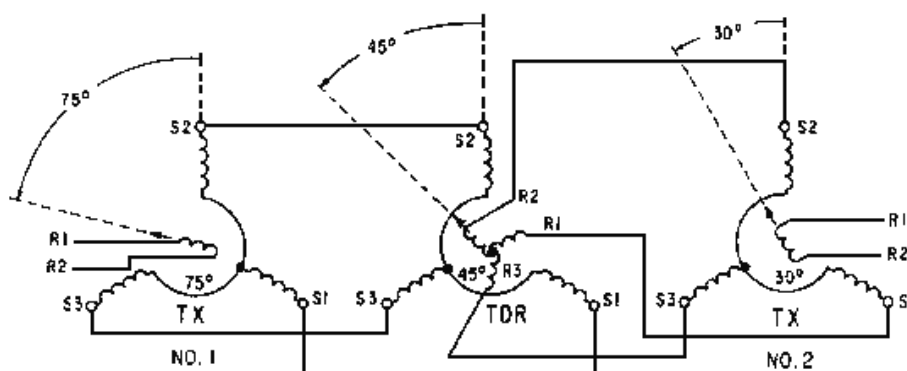

Figure 1-22.—TX-TDR-TX system operation (subtraction).
As we previously explained, the differential receiver differs chiefly from the differential transmitter in its application. The TDX in each of the previous examples combined its own input with the signal from a synchro transmitter (TX) and transmitted the sum or difference to a synchro receiver (TR). The synchro receiver then provided the system's mechanical output. When the differential receiver (TDR) is used, the TDR itself provides the system's mechanical output. This output is usually the sum or difference of the electrical signals received from two synchro transmitters. Figure 1-22 shows a system consisting of two TXs (No. 1 and No. 2) and a TDR connected for subtraction.